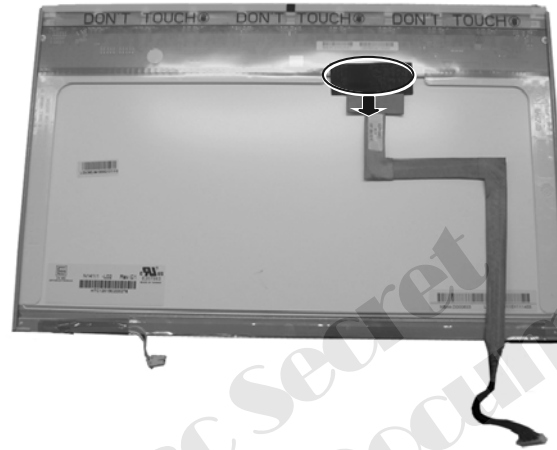

Figure 2-20 Disconnect the cable
4. Disconnect the cable to free the LCD panel. (Figure 2-20)